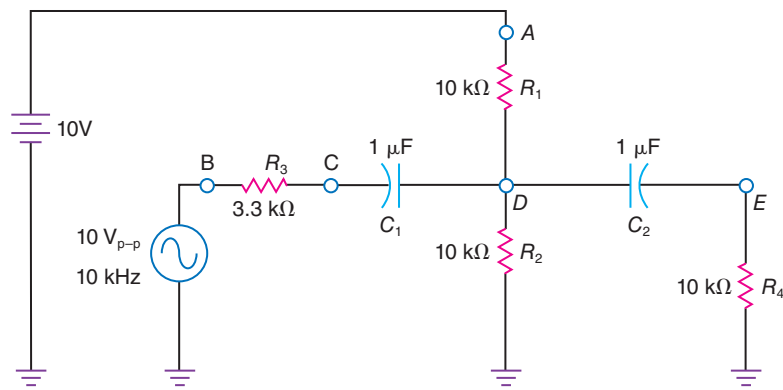
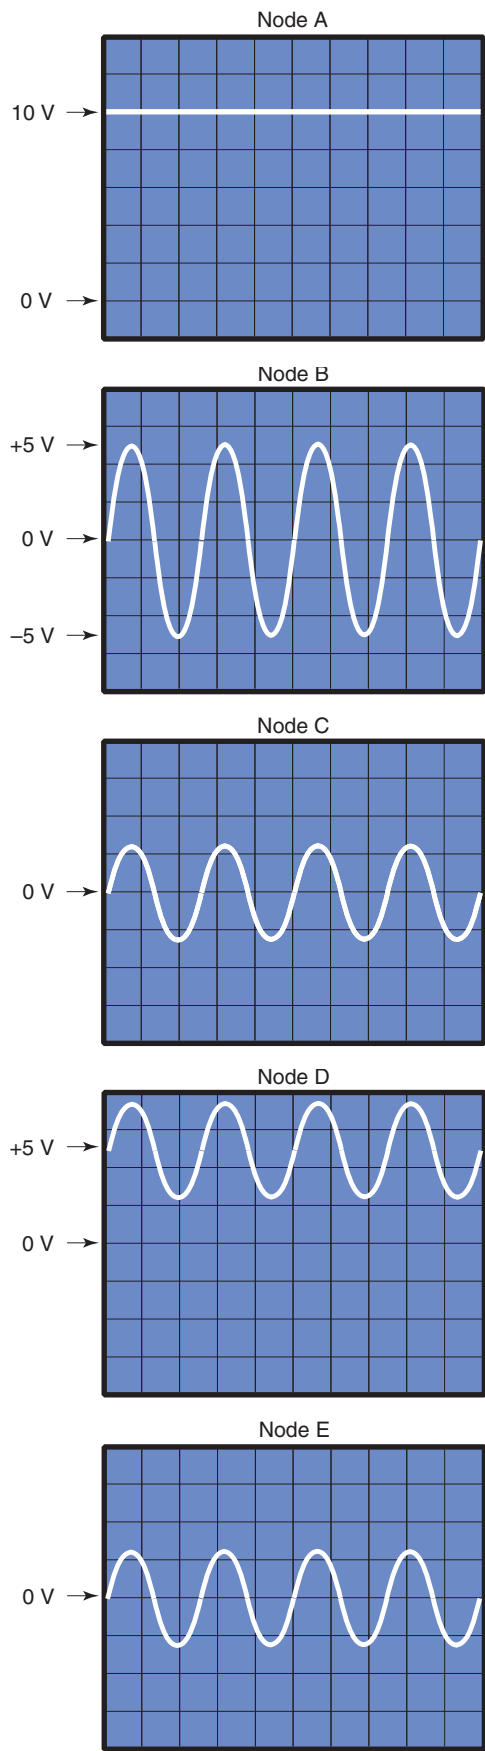
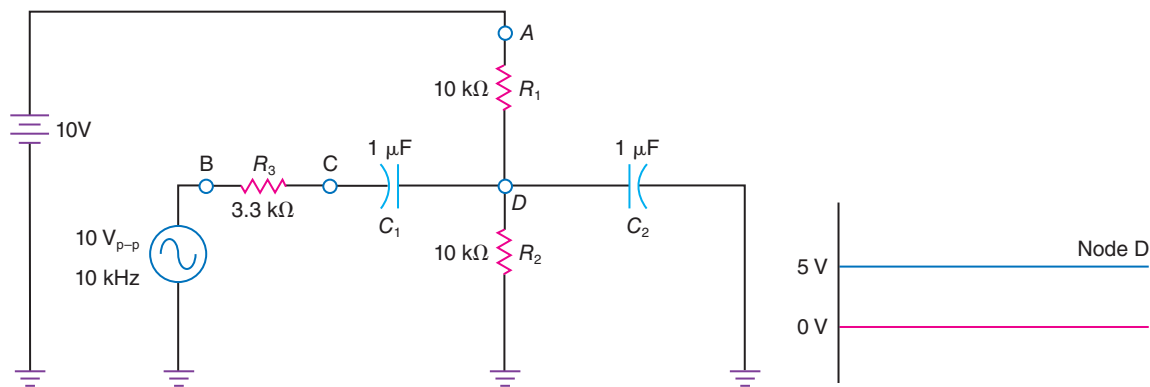

Fig. 1-10 An RC circuit with two sources.
Fig. 1-11 Waveforms for Fig. 1-10.
Fig. 1-13 The concept of bypassing.
Figure 1-10 shows an RC (resistor-capacitor) circuit that has both ac and dc sources. This circuit is similar to many linear electronic circuits, which are energized by dc power supplies, such as batteries, and which often process ac signals. Thus, the waveforms in linear electronic circuits often show both ac and dc components.
Figure 1-11 shows the waveforms that occur at the various nodes in Fig. 1-10. A node is a point at which two or more circuit elements (resistors, inductors, etc.) are connected. These two figures will help you understand some important ideas that you will need in your study of linear electronics.
The waveform for Node A, in Fig. 1-11, shows *pure direct current*. The word “pure” is used because there is no ac component. This is the waveform expected from a dc source such as a battery. Since Node A in Fig. 1-10 is the positive terminal of the battery, the dc waveform is no surprise.
Node B, in Fig. 1-11, shows *pure alternating current* (there is no dc component). Node B is the ac source terminal in Fig. 1-10, so this waveform is what one would expect it to be.
The other waveforms in Fig. 1-11 require more thought. Starting with Node C, we see a pure ac waveform with about half the amplitude of the ac source. The loss in amplitude is caused by the voltage drop across R_3 , discussed later. Node D shows an ac waveform with a 5 V dc component. This dc component is established by R_1 and R_2 in Fig. 1-10, which act as a voltage divider for the 10 V dc battery. Finally, Node E in Fig. 1-11 shows a pure ac waveform. The dc component has been removed by C_2 in Fig. 1-10. A dc component is present at Node D but is missing at Node E because *capacitors block or remove the dc component of signals or waveforms*.
Determine the reactance of the capacitors in Fig. 1-10 at a frequency of 10 kHz and compare this reactance with the size of the resistors:
The reactance 15.9Ω is low. In fact, we can consider the capacitors to be short circuits at 10 kHz because the resistors in Fig. 1-10 are $10 \text{ k}\Omega$, which is much larger.
Determine the reactance of the capacitors in Fig. 1-10 at a frequency of 100 Hz. Will the short-circuit viewpoint be appropriate at this frequency?
Figure 1-12 illustrates the equivalent circuits for Fig. 1-10. The dc equivalent circuit shows the battery, R_1 , and R_2 . Where did the other resistors and the ac source go? They are “disconnected” by the capacitors, which are open circuits for direct current. Since R_1 and R_2 are equal in value, the dc voltage at Node D is half the battery voltage, or 5 V. The ac equivalent circuit is more complicated. Note that resistors R_1 , R_2 , and R_4 are in
parallel. Since R_2 and R_4 are connected by C_2 in Fig. 1-10, they can be joined by a short circuit in the ac equivalent circuit. Remember that the capacitors can be viewed as short circuits for signals at 10 kHz. An equivalent short at C_2 puts R_2 and R_4 in parallel. Resistor R_1 is also in parallel because the internal ac resistance of a dc voltage source is taken to be 0Ω . Thus, R_1 in the ac equivalent circuit is effectively grounded at one end and connected to Node D at the other. The equivalent resistance of three 10-k Ω resistors in parallel is one-third of 10 k Ω or 3.33 k Ω —almost equal to the value of R_3 . Resistor R_3 and the equivalent
When the dc and ac equivalent circuits are taken together, the result at Node D is 5 V dc and 5 V_{p-p} alternating current. This explains the waveform at Node D shown in Fig. 1-11. The *superposition theorem*, which you may have studied, provides the explanation for the combining effect.
There is another very important concept used in electronic circuits, called *bypassing*. Look at Fig. 1-13 and note the C_2 is grounded at its right end. This effectively shorts Node D as far as the ac signal is concerned. The waveform shows that Node D has only 5 V dc, since the ac signal has been *bypassed*. Bypassing is used at nodes in circuits in which the ac signal must be eliminated.
Capacitors are used in many ways. Capacitor C_2 in Fig. 1-10 is often called a *coupling capacitor*. This name serves well since its function is to couple the ac signal from Node D to Node E. However, while it couples the ac signal it *blocks* the dc component. So, it may also be called a *blocking capacitor*. Capacitor C_2 in Fig. 1-13 serves a different function. It eliminates the ac signal at node D and is called a *bypass capacitor*.
18. Find the average value of the waveform for Node D and for Node E in Fig. 1-10 if the battery provides 25 V.